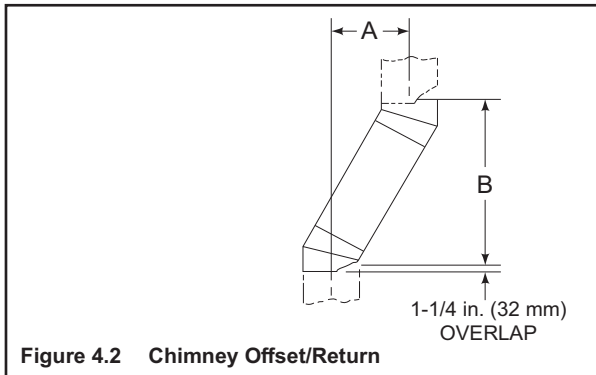

Figure 4.2 Chimney Offset/Return
- Measure the shift needed to avoid the overhead obstruction. Refer to dimension A in Figure 4.2.
Your "A" dimension from Figure 4.2 is 14 1/2 in. (368 mm). Using Table 4.3 the dimension closest to, but not less than 14 1/2 in. (368 mm) is 14 1/2 in. (368 mm) using a 30° offset/return.